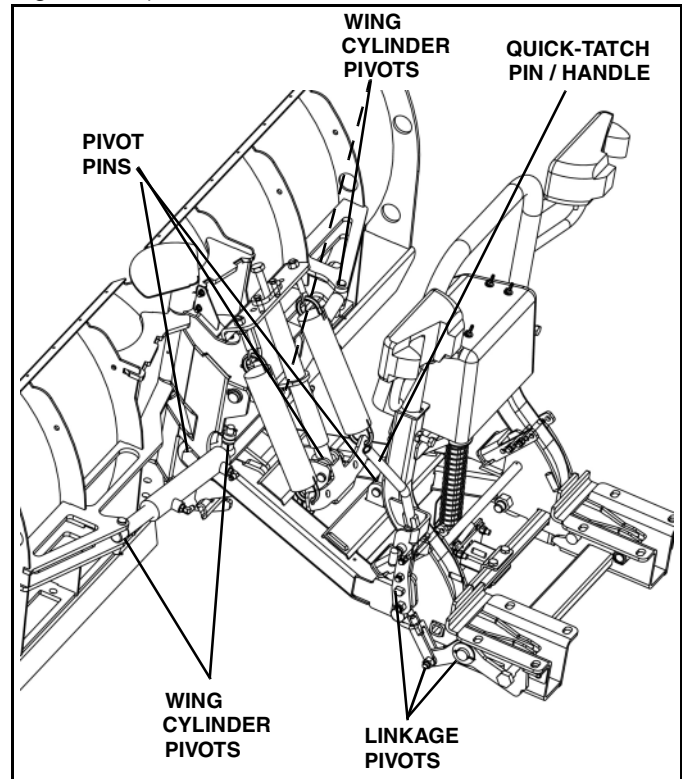

Figure 1-43
3. Apply a small amount of light oil to the hitch pins and pivots, to pivot pins between the center blade assembly and the intermediate pivot assembly, between lift and swing cylinder pivot pins and the lift linkage pivots. (See Figure 1-43).